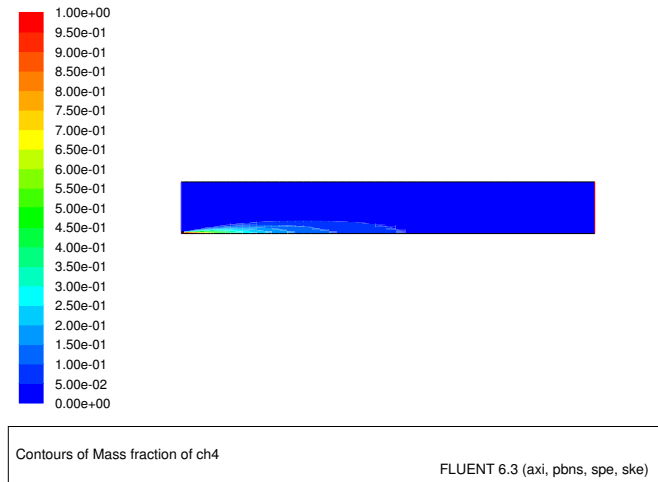

Figure 13.8: Contours of CH₄ Mass Fraction
5. Display filled contours of mass fraction for CH₄ (Figure 13.8).